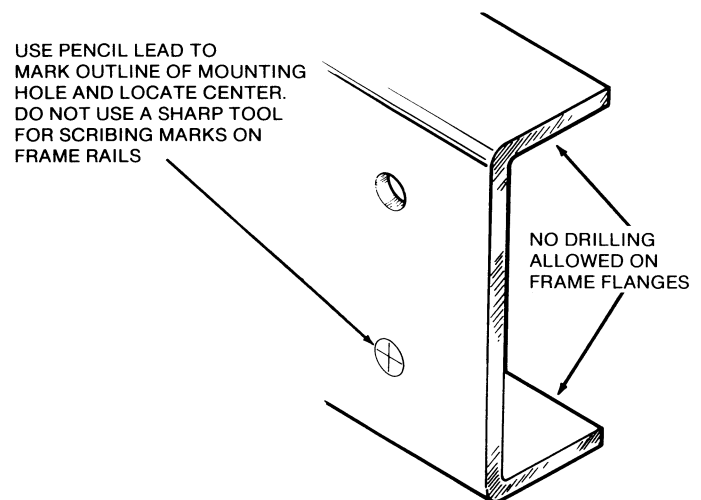

FIGURE 3. MARKING MOUNTING HOLE LOCATION ON TRUCK FRAME RAIL-SIDE MOUNT ONLY
Marks for any new mounting holes must be made with a lead pencil. Do NOT use a sharp tool for making scribe marks to prevent cracks from starting or extending beyond the circumference of the drilled hole. See Figure 3 for approved method for making marks on truck frame rails. Hole should not be larger than necessary to allow bolts to fit freely. Do not force bolts into place.
*Incorrect drilling can damage truck frame rails. Do not drill any new holes in the truck frame rails closer than two inches (51 mm) to top or bottom flange area of frame rail. Bolt holes in frame rails **MUST NOT** be located any closer to frame rail flanges than present bolt hole pattern. If in doubt, consult truck manufacturer's chassis manual. Refer to Figure 3 for recommendations regarding marking of new frame holes. No drilling whatsoever is allowed in the top or bottom frame rail flanges.*